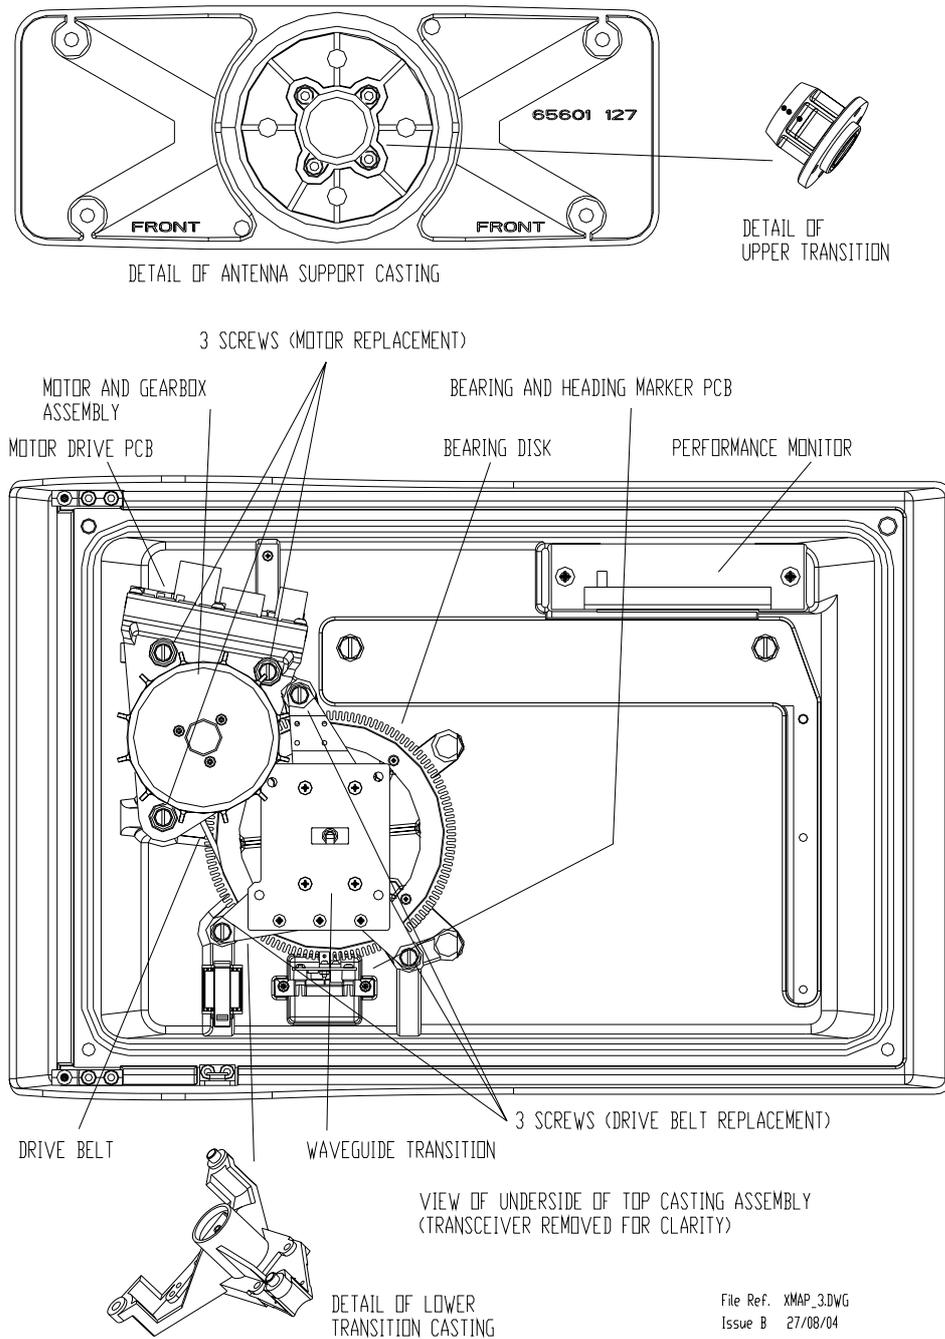

Figure 6.33. X-Band Masthead Turning Unit – View inside upper casting with Transceiver removed
4. Remove the three screws (refer to Figure 6.33).
3. Refer to Figure 6.33 for the location of the three screws that retain the motor support casting to the upper casting.
5. Refer to Figure 6.33.